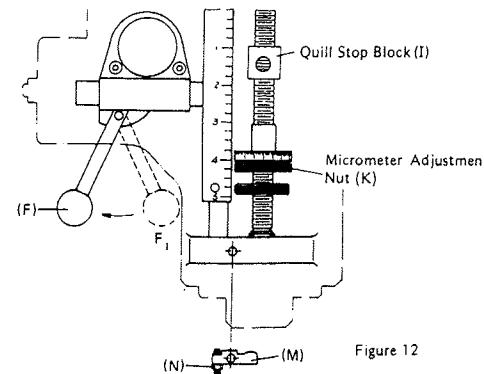

Figure 12
- d. To engage the overload clutch, place feed control lever "F" to the "F2" position. (Fig. 12).
- f. The working depth can be set by use of the micrometer adjustment nut "K" (Fig. 12). This adjusting nut is graduated in .001" and .02mm increments). To activate the auto feed, pull the feed control lever "F" out. It will disengage when the adjusting nut contacts the quill stop block "I" (Fig.12). For manual trip, you can push the feed control lever in manually.